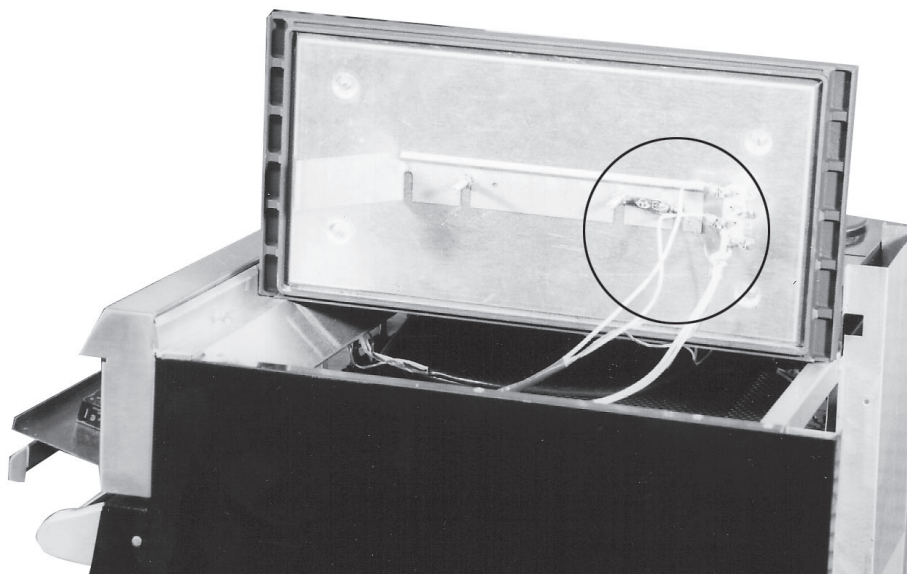

Fig. 30
6. Note and disconnect the wiring for the hot top section. (Fig. 30)